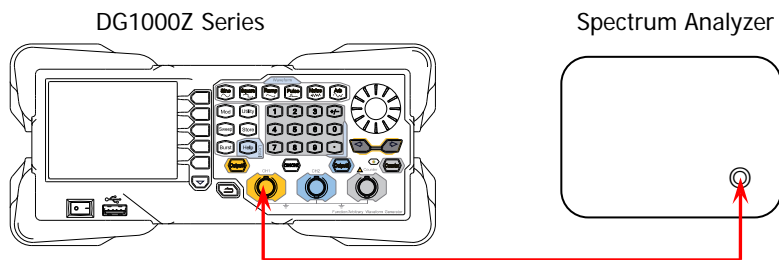

Figure 2-4 Connect DG1000Z and the Spectrum Analyzer
1. Make sure that the environment temperature is between 18°C and 28°C and DG1000Z has been warmed up for at least 30 minutes. Connect the channel output terminal (take CH1 as an example; the test method is also applicable to CH2) of DG1000Z with the signal input terminal of the spectrum analyzer using a dual-BNC connecting cable and N-BNC adaptor as shown in Figure 2-4.
1. Make sure that the environment temperature is between 18°C and 28°C and DG1000Z has been warmed up for at least 30 minutes. Connect the channel output terminal (take CH1 as an example; the test method is also applicable to CH2) of DG1000Z with the RF input terminal of the spectrum analyzer using a dual-BNC cable and N-BNC adaptor as shown in Figure 2-4.